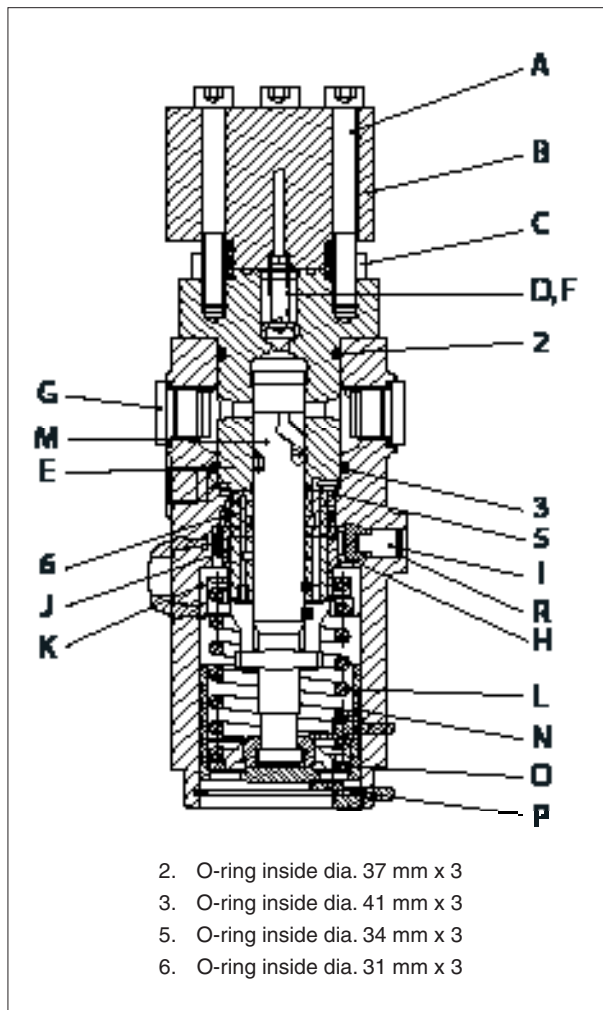

Fig 2 Cross Section of Fuel Injection Pump
6. Mount the injection pump in the clamping bracket PYO-W020 (see plate 52014 item 037), on the test pump.
7. Press the thrust cap (N) fig. 2 downwards and remove the securing ring (P). Remove the thrust cap (N) with lower spring plate (O) and plunger (M). **Be sure not to damage the plunger.**
8. Take out the plunger spring (L), upper spring plate (K) and pinion (J). If necessary remove the lock ring (R) and guide pin (I) and dismount the regulating rod (H) as well as the cap screw in the opposite end of the regulating rod (H).